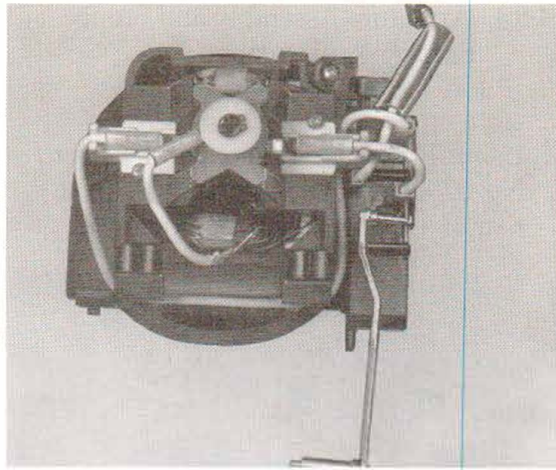

Figure 29. Carbon Brush Cartridge Replacement
- A. See Figure 29. If carbon brushes are to be reused, mark the brush holder assembly that is closest to the power switch with an "S". Reinstall brush holder assemblies in same positions from which they were removed.
Ensure that the wire routing for the brush holder assembly that is located opposite the power switch is positioned as shown in Figure 29.